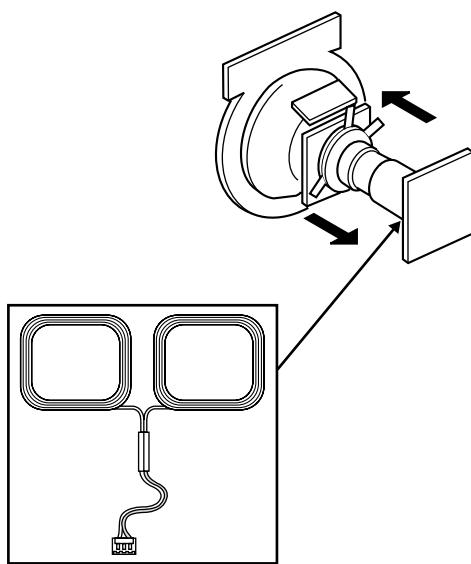

Fig. 3-1
(See Figures 3-1 through 3-4.)
- Move the deflection yoke forward and adjust so that the entire screen is green. (See Figure 3-1.)